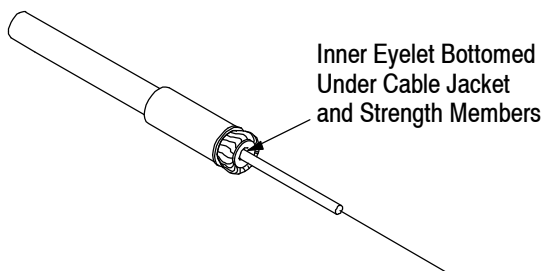

Figure 4
5. Slide the crimp eyelet onto the buffer. Using the crimp eyelet, push the strength members to one side of the cable jacket. Fold back the strength members and retain them with the crimp eyelet. See Figure 4, Detail A.
6. Slide the inner eyelet over the buffer and under the cable jacket and strength members until the inner eyelet bottoms. See Figure 4, Detail B.